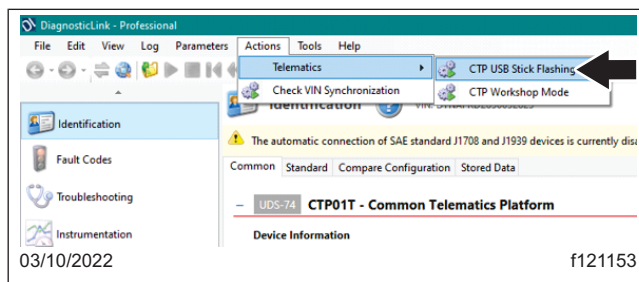

Fig. 28, Opening CTP USB Stick Flashing Window
9. Go to 'Action,' 'Telematics,' then select 'CTP USB Stick Flashing.' See Fig. 28.